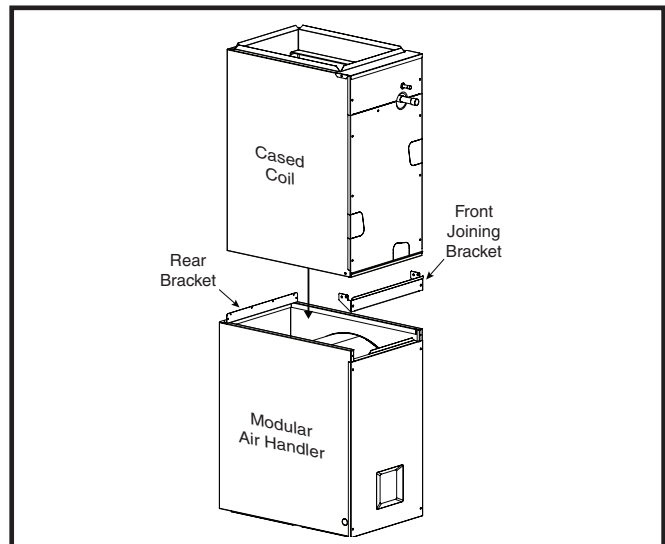

Figure 4. Downflow Brackets
4. Carefully place the cased coil on top of the modular air handler. **NOTE:** Make sure the units are flush in the front and on the sides with a "step" fit in the back and that there are no gaps on the sides. See Figure 4 \(page 7\).